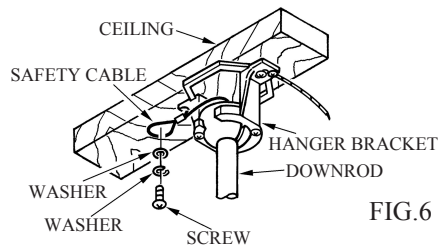

FIG.6
3. Install the safety cable into the building structure.(see Fig.6)